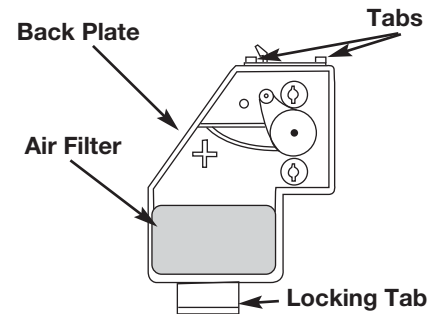

Fig. 28
7. Reinstall the air filter cover. Position the slots on the top of the air filter cover onto the tabs at the top of the back plate (Fig. 28).